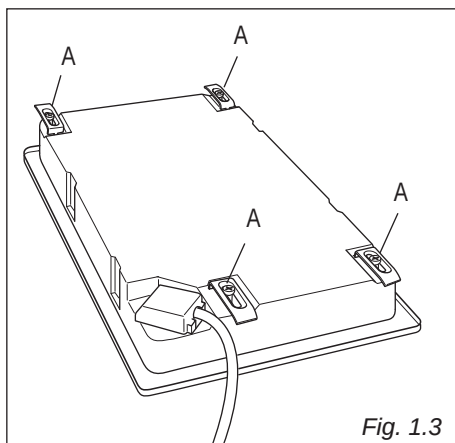
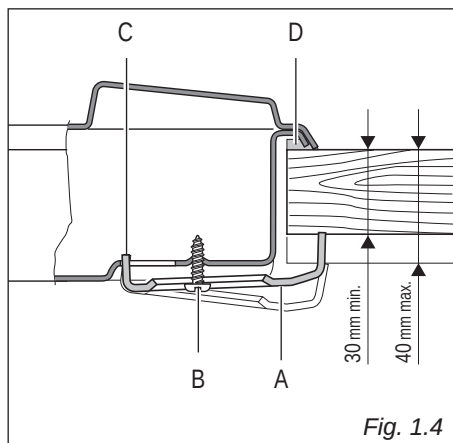

Fig. 1.3
Fig. 1.4
Each cooker top is provided with an installation kit including brackets and screws for fastening the top to fixture panels from 30 to 40 mm thick, figs. 1.4.
- Turn the cooktop over and put tabs "A" (fig. 1.3) into the mountings, only tighten screws "B" a few turns. Make sure that the tabs are mounted correctly as shown in the figure 1.4. Turn the tabs so that the cooktop can be put into the hole.